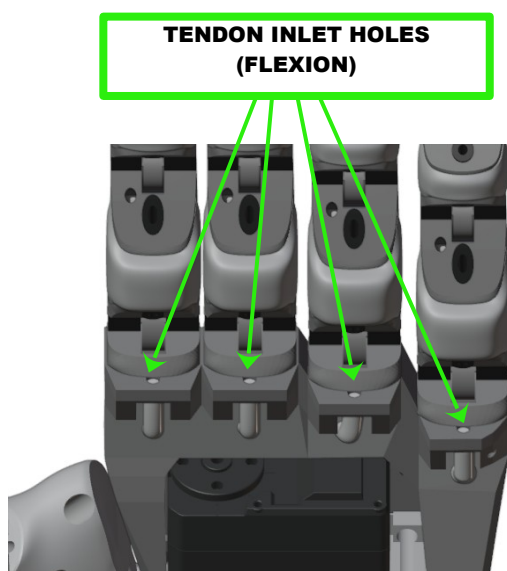
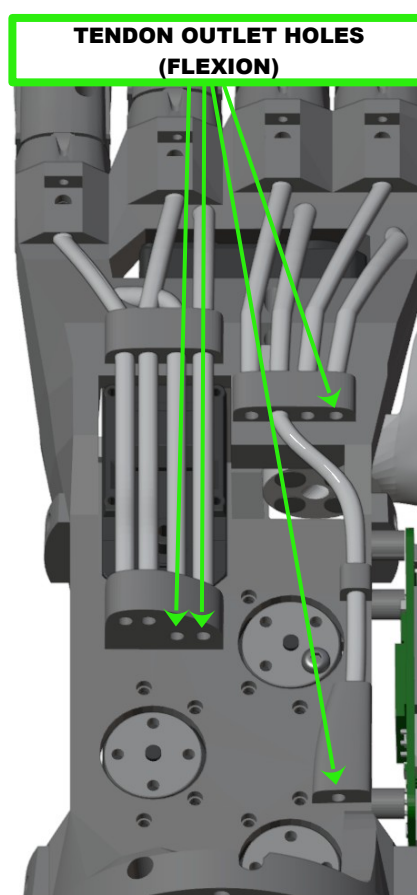
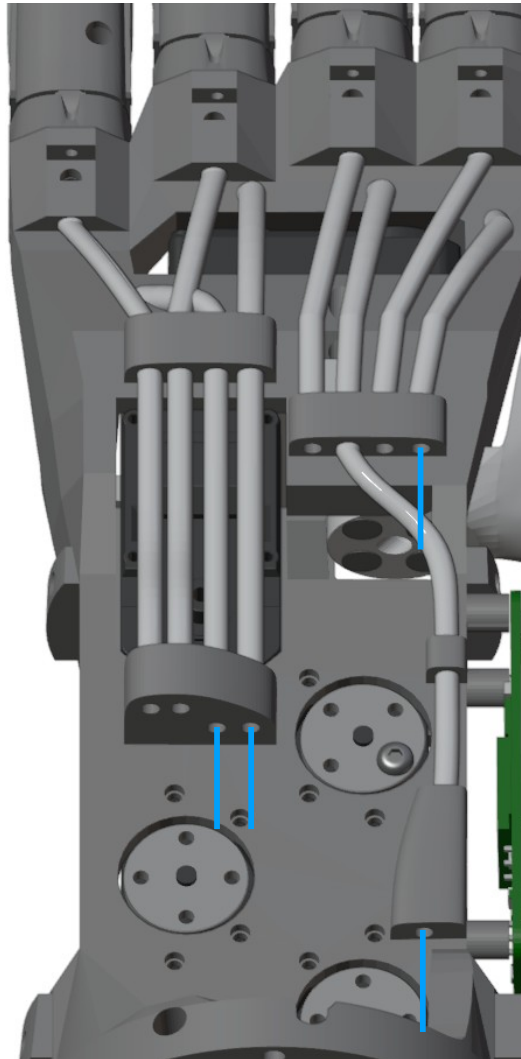

Figure 5.42: Tendon inlet holes (flexion)
Figure 5.43: Tendon outlet holes (flexion)
Figure 5.44: Flexion ends of the tendons emerging from the Bowden tubes
1. On the front of the skeleton, insert the two ends of the nylon needle into the inlet hole in front of the finger slot (figure 5.43) and push them into the PTFE tube below, bringing them out through the outlet hole on the rear of the skeleton (figure 5.42)
2. Insert the flexion end of the tendon into the loop of the nylon needle left outside the inlet hole (figure 5.43) and pull the ends of the nylon needle from the other end of the Bowden tube until the entire tendon comes out of the outlet hole (figure 5.44).